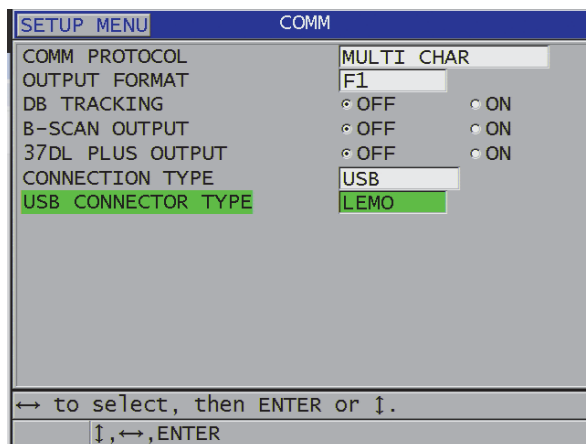

Figure 14-1 Selecting USB and connector type
6. In the **COMM** screen, set **CONNECTION TYPE** to **USB** (see Figure 14-1 on page 264).